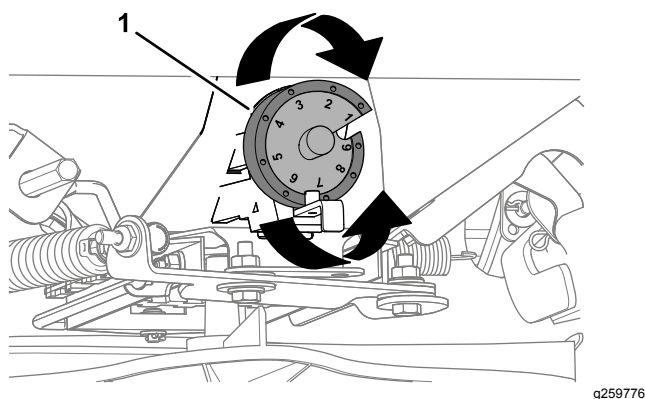

Figure 24
5. Rotate the drop rate cam (Figure 24) to the cam setting you determined in step 4.